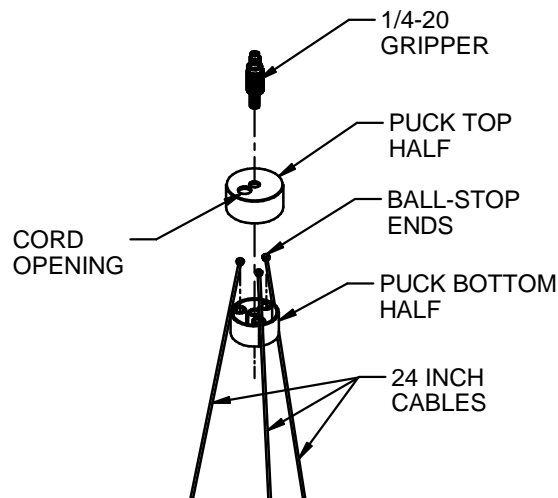

Fig. 4
- Assemble the cable puck by dropping the ball-stop ends of the three 24 inch cables into the slots on the puck bottom half (**Fig. 4**). Assemble the puck top half, making sure the cord opening in the top half lines up with the one in the bottom half. Thread the 1/4-20 gripper into the top center opening and tighten to hold the puck assembly together.